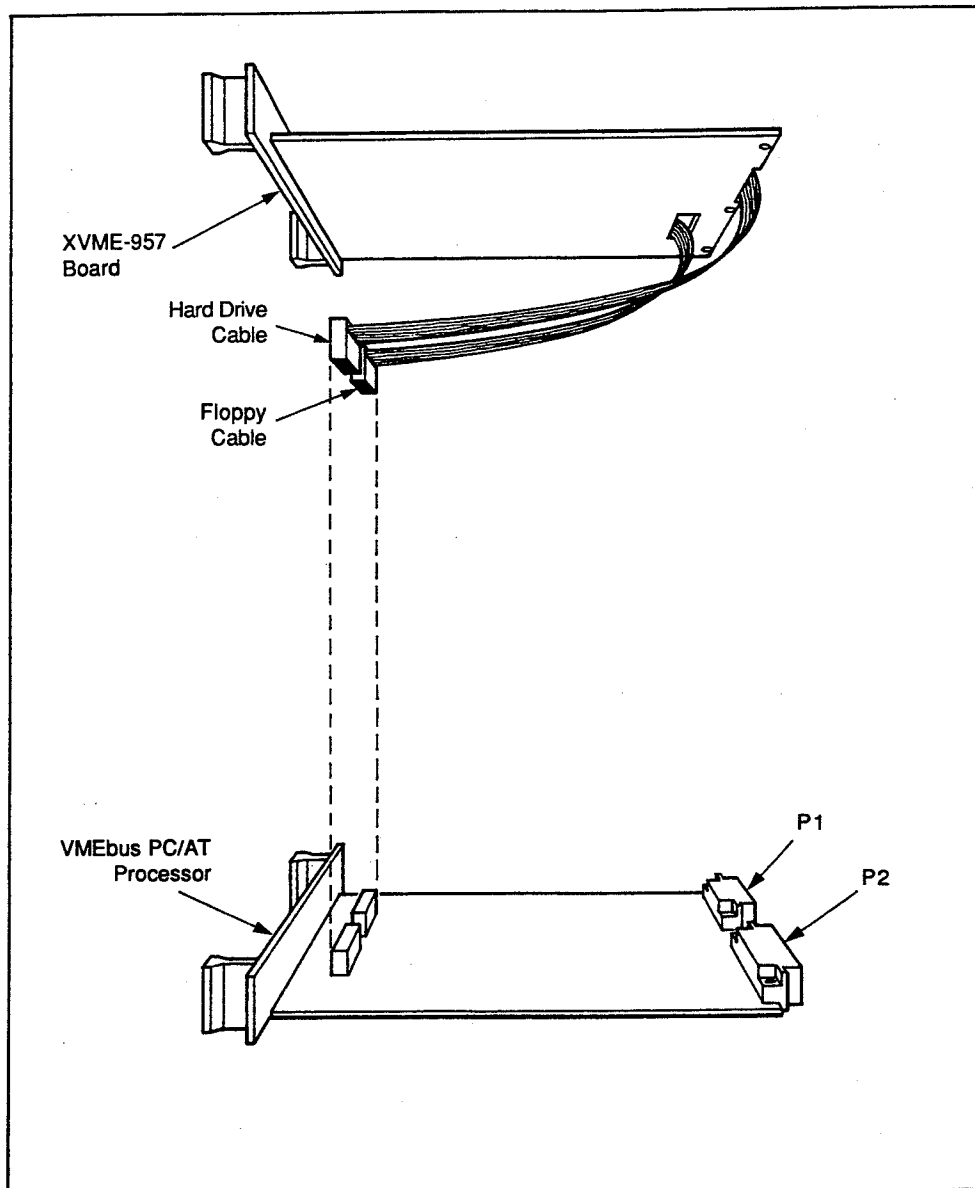

Figure 2-1. Installation of the XVME-957/1 or 957/3
4. Connect the floppy drive and hard drive cables to the XVME-957/1, as depicted in Figure 2-1.